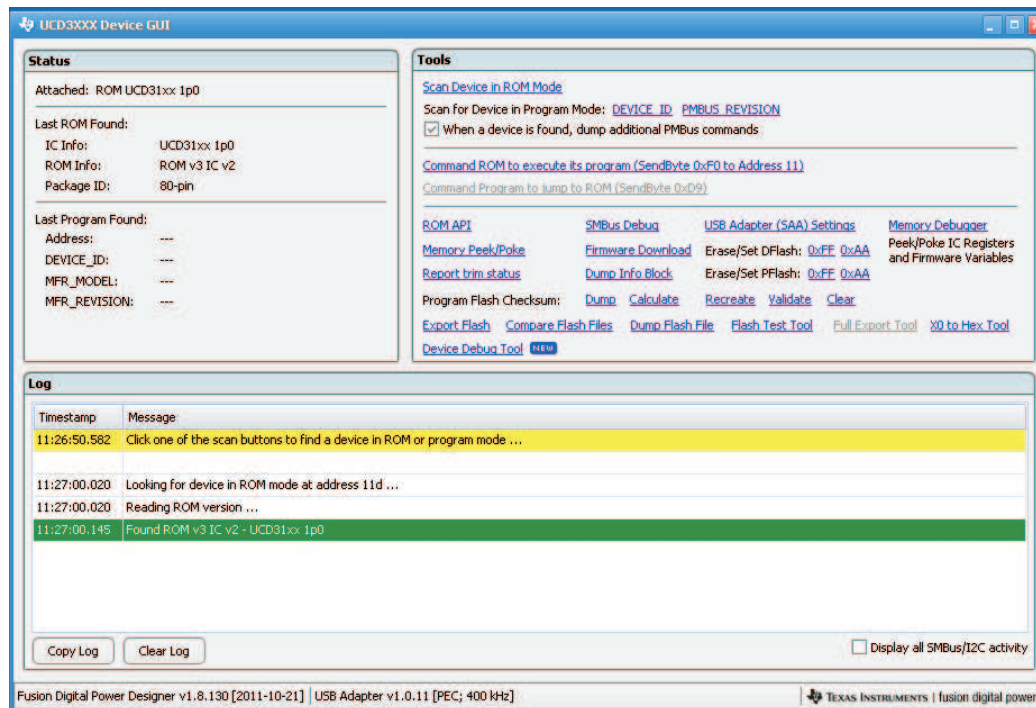

Figure 13. UCD31xx Device GUI
3. Launch the UCD31xx device GUI following the steps described in Section 6.1.3. A window shown in Figure 13 appears.